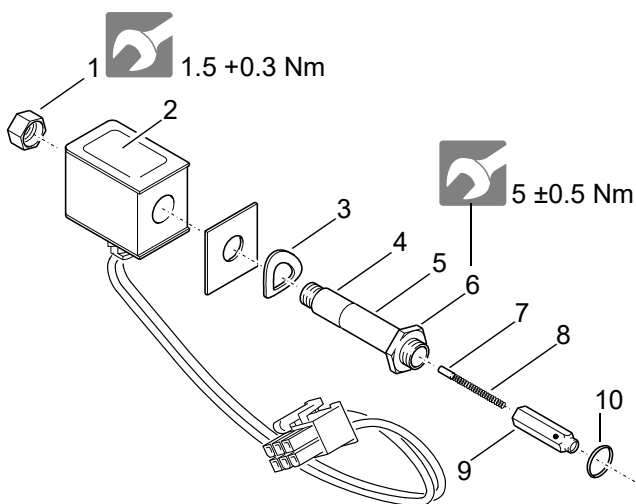

Fig. 806 Solenoid valve
4. Disconnect the solenoid valve plug (6) from control unit (15).
5. Using suitable tools loosen the hexagon, wrench size 16 (6, Fig. 806) of the solenoid valve (6, Fig. 805) from the fuel pump (10) and unscrew the solenoid valve (6).
1. The gasket ring (10, Fig. 806) towards the fuel pump must be replaced. Make sure stay, spring and lifter are correctly assembled, observe installation position (see Fig. 806).
3. Using suitable tools, tighten hexagon, wrench size 16 (6, Fig. 806) of the solenoid valve.
If the nut, wrench size 12 (1, Fig. 806) was loosened, then it must be tightened with a tightening torque (see Fig. 806) and subsequently secured using locking paint.